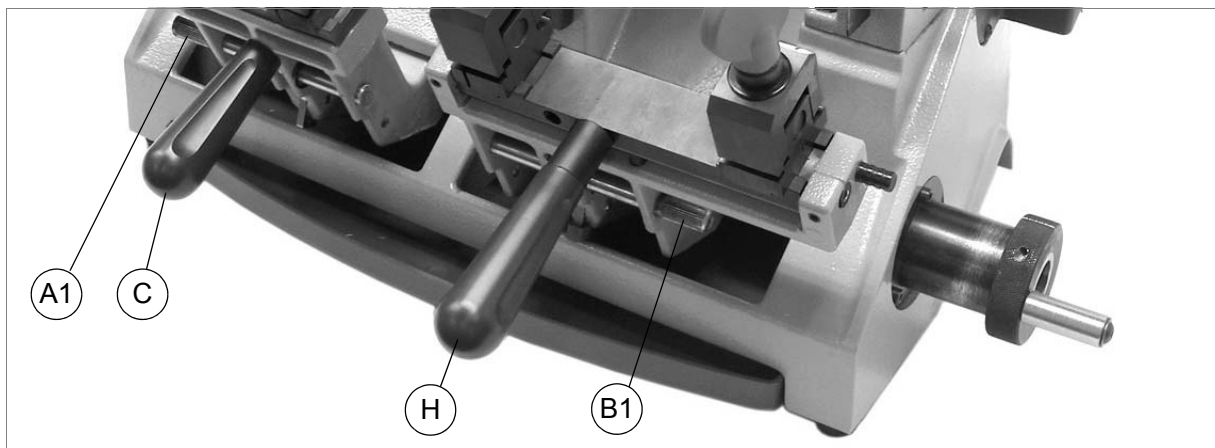

Fig. 23
- turn the carriage lock/release pin to the right (A1 or B1) (fig. 23).